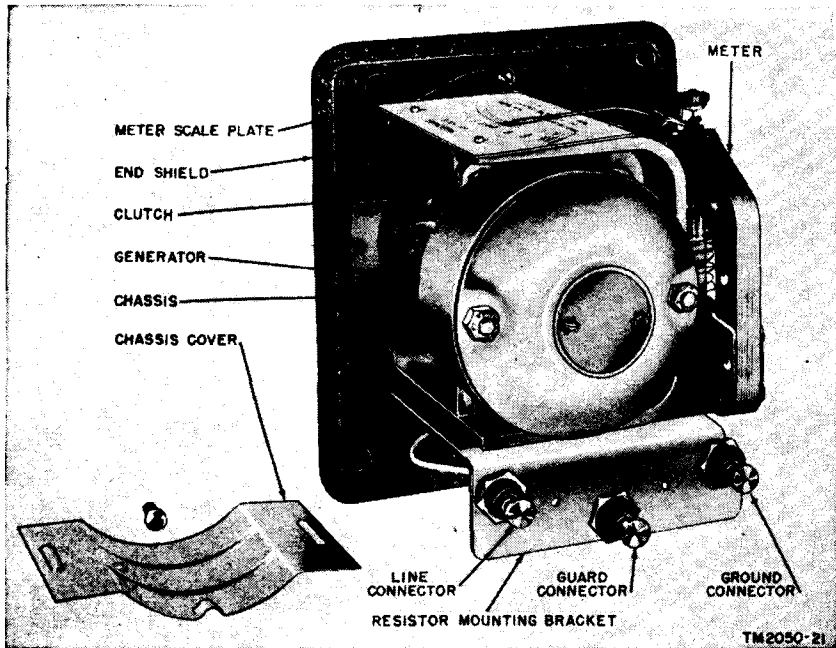

Figure 6. End shield and chassis assembly of ohmmeter ZM-21A/U.
- (2) On Ohmmeter ZM21A/U, spring-type connectors (fig. 6) are used, instead of wires, to make internal connection to the binding posts.